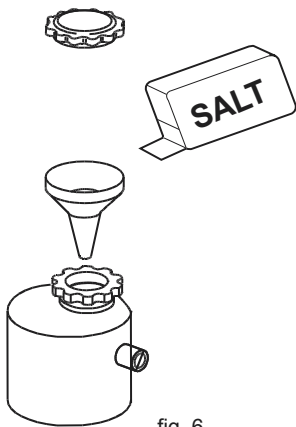

fig. 6
- turn the main switch **1** (see chap. 4) to 1 (ON);
- Check and fully replenish the salt, being careful not to spill it into the tub. A strong concentration of salt can negatively affect the correct functioning and service life of the machine. Fill the special container, placed on the inside of the tub, (see fig. 6) with coarse salt (1-2 mm. grains);